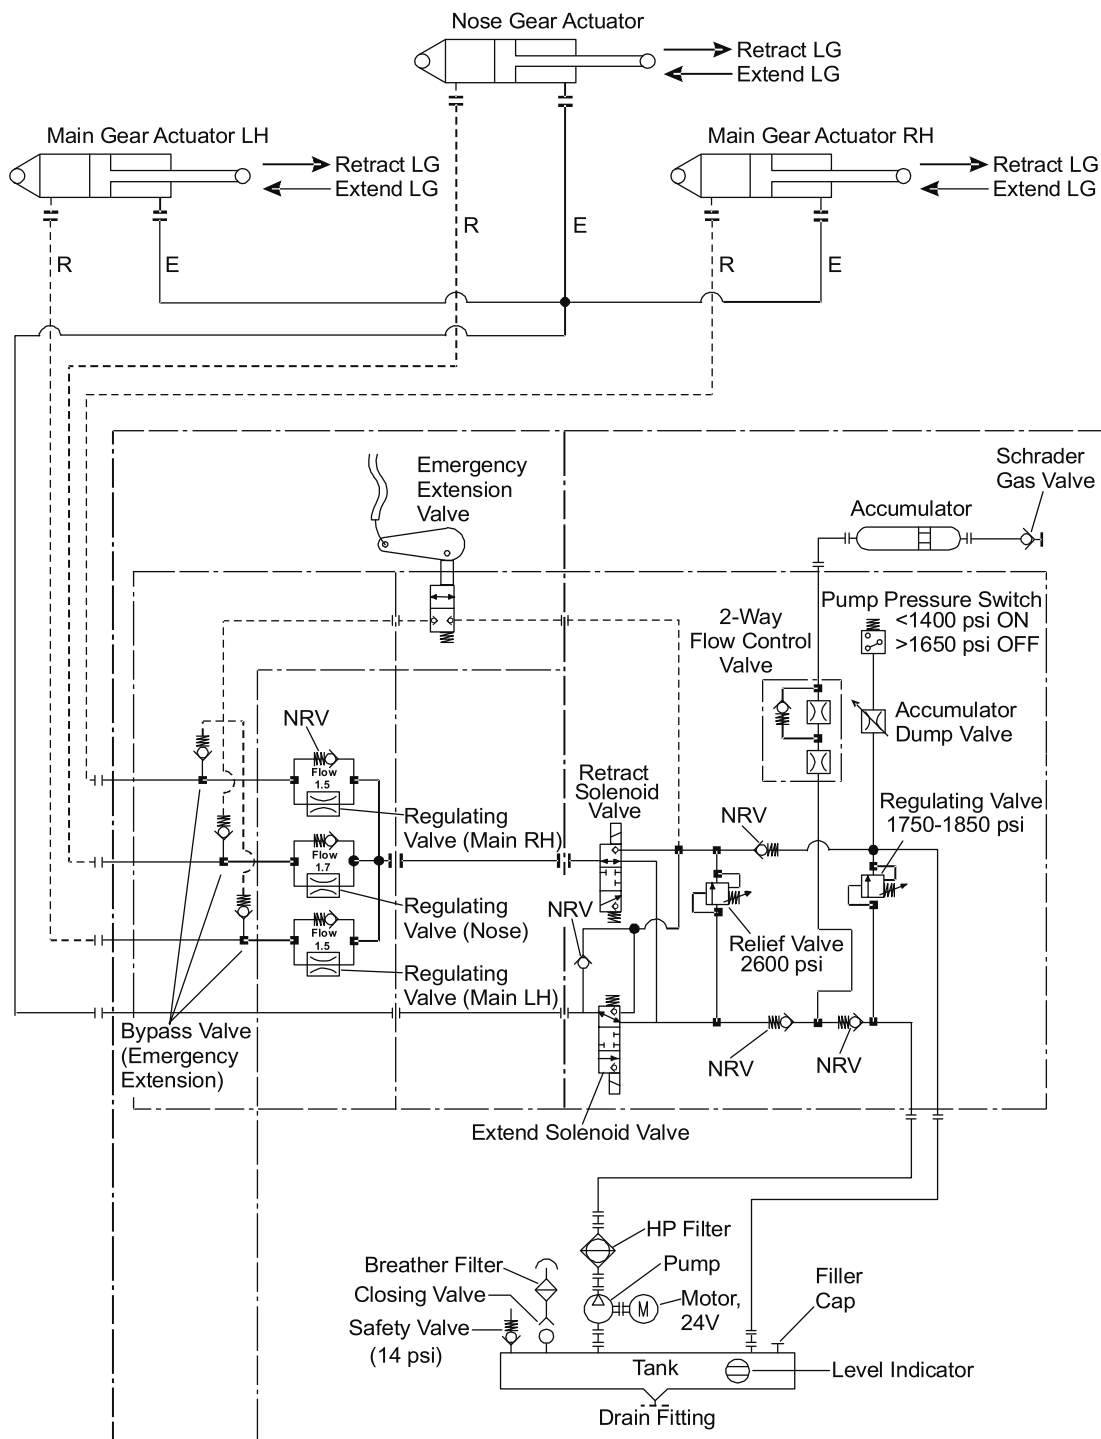

Figure 4 : Hydraulic Schematic Diagram - 'Differential Pressure' Retraction Operation
Figures 4 thru 7 show the hydraulic schematic diagrams for the operation of the landing gear.
- The electrical circuit to the hydraulic pump is made and the pump will operate if the system pressure is less than 96.5 bar (1400 PSI). The retract solenoid valve is energized through the LH main gear 'weight-on-wheels' micro switch and allows fluid to flow from the pump to the retract side of the actuator. The extend solenoid valve is de-energized and allows fluid to flow from the pump to the extend side of the actuator (Figure 4).